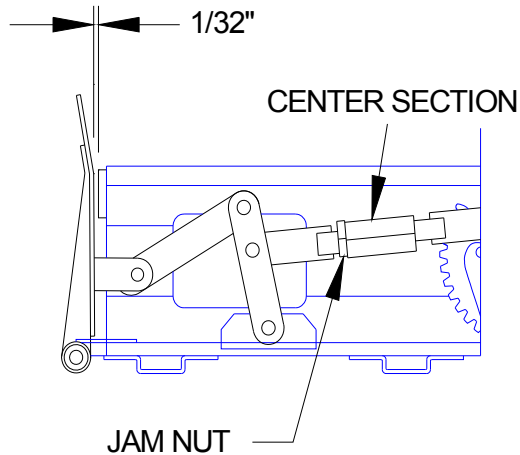

FIGURE 4-12: CLOSED ROLLSTOP ADJUSTMENT
- 7) Refer to **Figure 4-12**. Adjust link so that Rollstop closes to within 1/32" of rubber bumper (that Rollstop contacts). Rotating the center section counterclockwise (viewed from Rollstop) shortens the link, and turning it clockwise lengthens it.